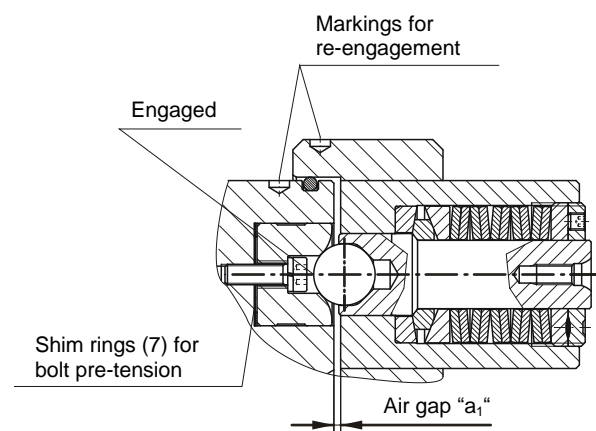

Fig. 6
- The bolt (2.2.1) in the overload element (2) must be engaged.
- The air gap "a₁" acc. Table 1 and Fig. 6 must be kept to!**
Re-engagement (Figs. 6 and 11)